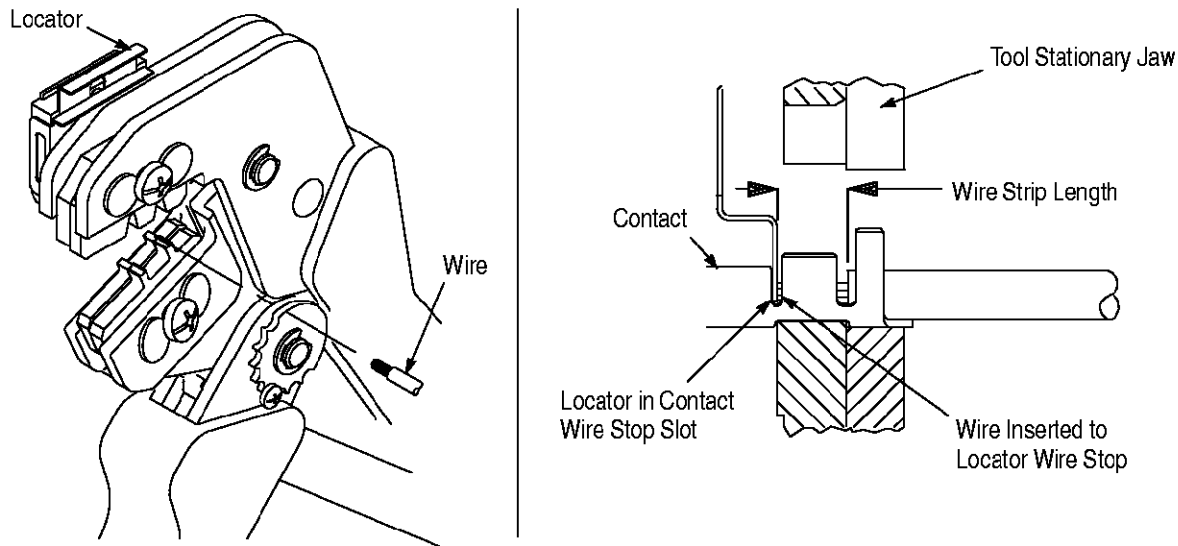

Figure 3
Refer to Figure 3, and proceed as follows:
5. Insert stripped wire into contact insulation and wire barrels until it is butted against the wire stop, as shown in Figure 3.
NOTE *The crimped contact may stick in the crimping area, but can be removed by pushing downward on the top of the locator (see Figure 3).*